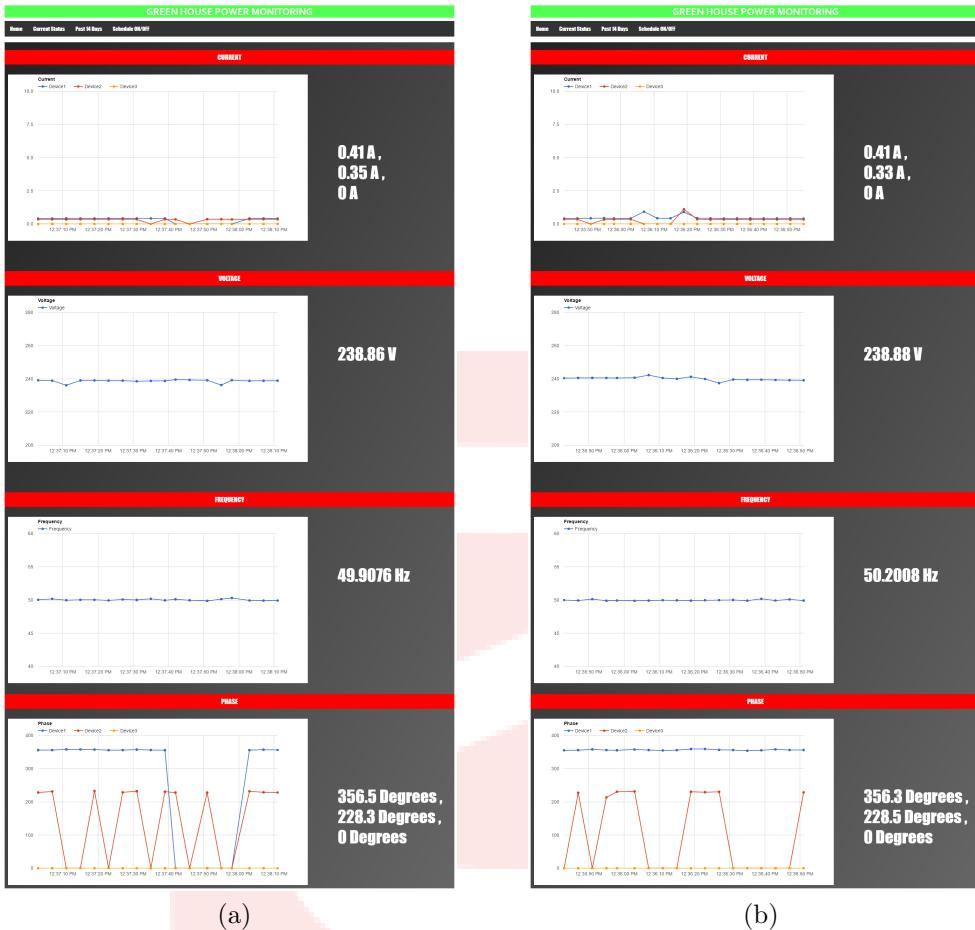

Figure 1.28: Real time updating graph with different stamp
- Next is the current status page. See Figure 1.28.
- Last division represents phase difference(in deg) of the three connected devices. See Figure 1.28 for reference .